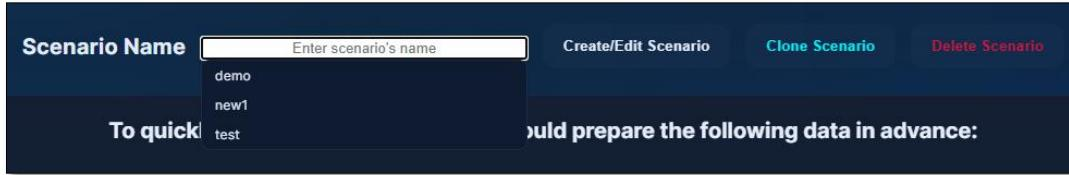

Figure 2.3. Open an existing HYD scenario
- *Open an existing scenario:* type the name of the scenario in the text, select the scenario from the list, and then hit the “**Create/Edit Scenario**” button (**Figure 2.3**).